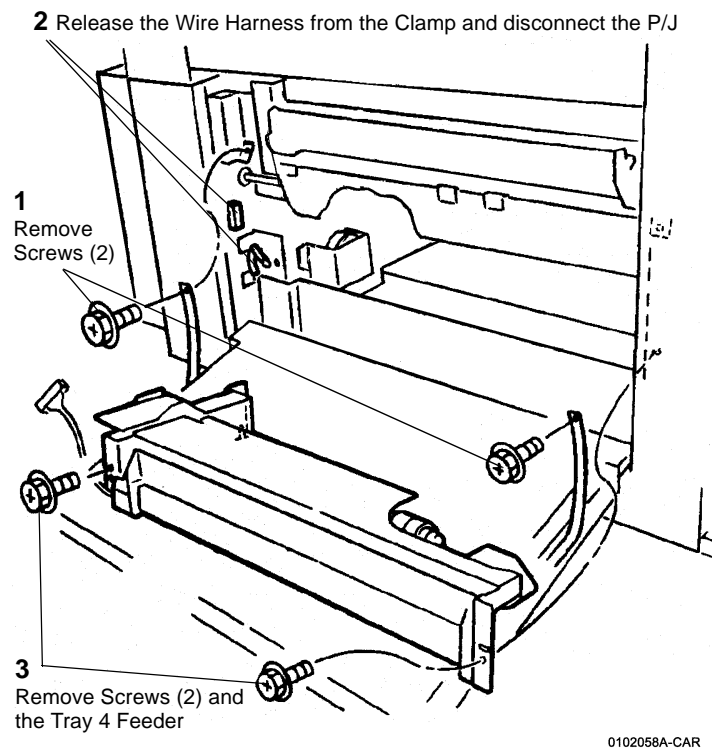

Figure 1 Removing the Tray 3 Feeder
3. Remove the Tray 3 Feeder (Figure 1).